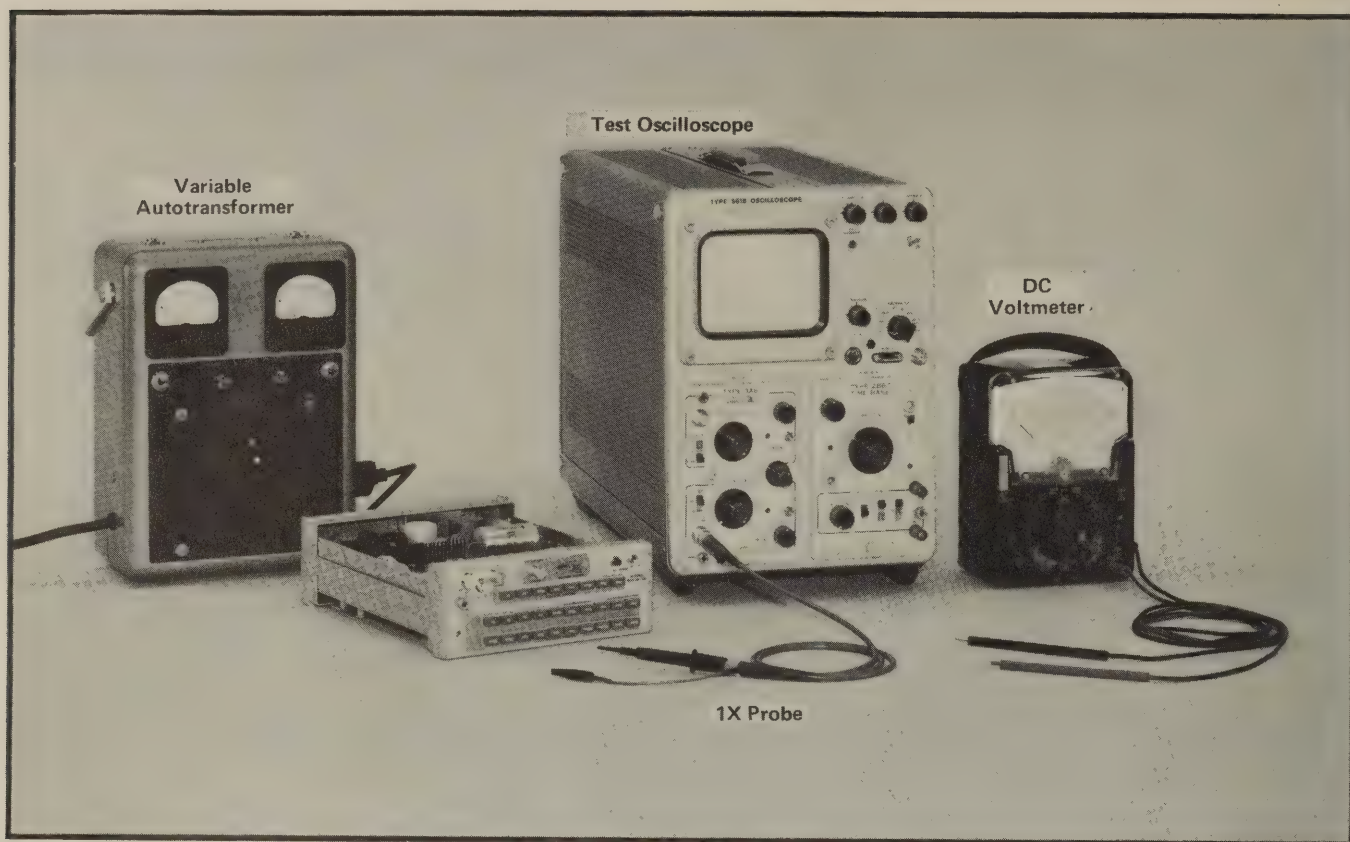

Fig. 5-1. Initial equipment setup for checking and adjusting power supply.
- a. Equipment setup is shown in Fig. 5-1.
- f. Return the autotransformer to 115 (230) VAC and remove the 1X probe. If the line voltage is approximately 115 V (230 V), the 2901 may be connected directly to the line for the remainder of the procedure.
- a. Test equipment setup is shown in Fig. 5-1.
- e. ADJUST—C39 and C43 (Fig. 5-1) simultaneously for maximum amplitude and flatness of the marker display. Adjust C47 and L50 for maximum amplitude. Check modulation percentage as described in step 5f. Modulation percentage should not exceed 4% at 20°C. (Modulation percentage is a maintenance check and not a specification.)